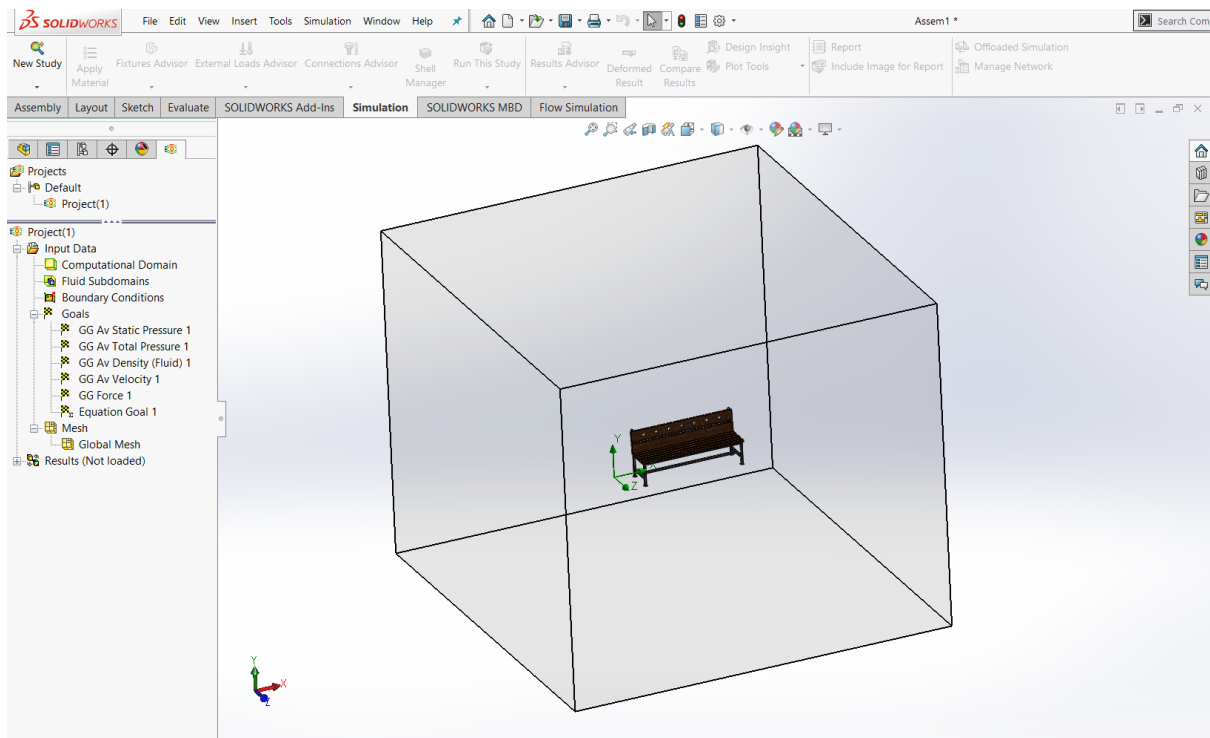

Figure 8: Adding equation goals
10. The next step is setting the goals by right clicking the goals, then select insert global goals. Then select static pressure, total pressure, density, average velocity, and force. Then click ok. Which is shown in the figure 8.